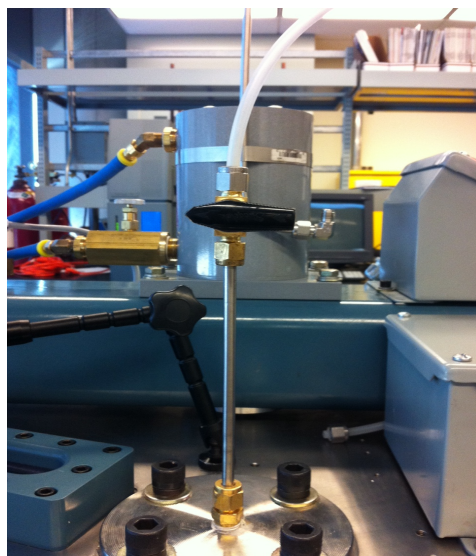

Figure 7: Water Valve #3
4. Ensure the water valve #3 is closed: This valve is located above the droplet generator extension as shown in figure 7.
11. Water Valve #3 (see figure 7) can now be opened to begin water erosion test.